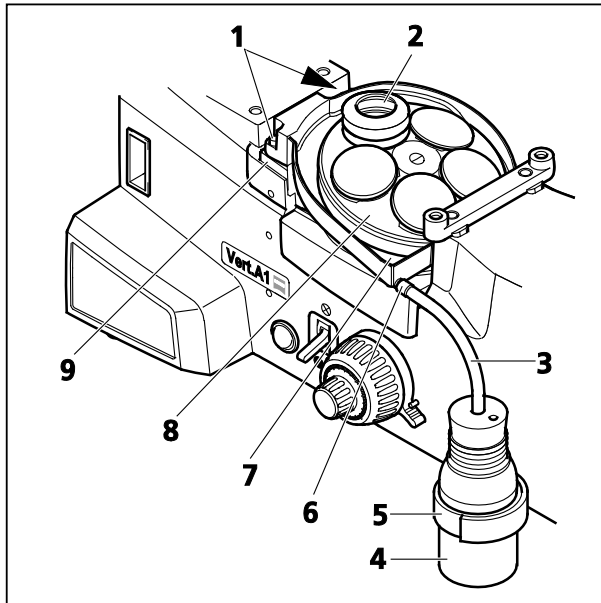

Fig. 3-34 Mounting the Aqua Stop
- Place the collection tray (Fig. 3-34/7) onto the nosepiece carrier (Fig. 3-34/9) and fasten the tray with two screws (Fig. 3-34/1).
- Put the cover plate (Fig. 3-34/8) onto the nosepiece.
- Put a fitting bellow (Fig. 3-34/2) over each objective.
- Plug the cut-to-size drain hose (Fig. 3-34/3) onto the drain outlet (Fig. 3-34/6). Push the other end of the hose through the plug of the collection bottle (Fig. 3-34/4) in such a way that the hose projects some 3 mm to 4 mm downward from the plug.
- Glue to the stand the Velcro fastener (Fig. 3-34/5) supplied. Use the Velcro to fasten the collection bottle onto the stand.